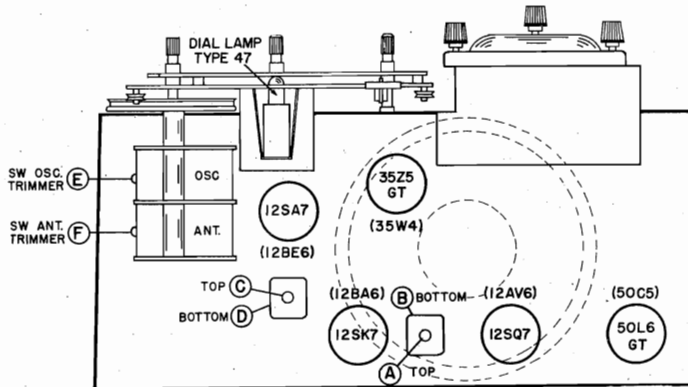

Fig. 5. Top View of Chassis Showing Location of Tubes and Alignment Adjustments
TUBE AND DIAL LAMP REPLACEMENT - Refer to Fig. 5. for the location of the tubes and dial lamp used in the receiver. It will be necessary to remove the back cover from the cabinet to gain access to the tubes and dial lamp. To prevent damage to the tuning capacitor, set the TUNING control fully counterclockwise before making any replacement. When replacing tubes, check the tube type carefully and replace it with the correct type. The dial lamp and socket can be removed by compressing the side springs on the socket. Replacement of the dial lamp should be made with a 6-8 volt, Mazda #47 (brown bead) pilot lamp or equivalent.
- Refer to Figs. 5 and 6 for location of alignment adjustments.